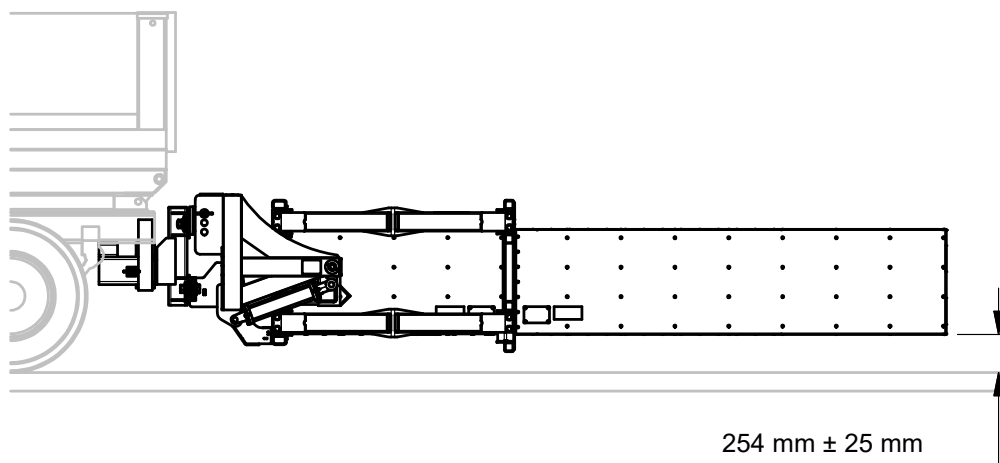
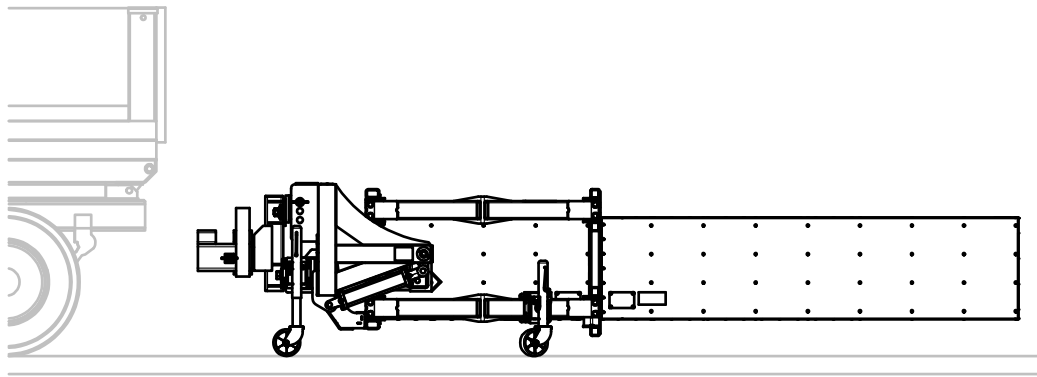

Figure 3
Figure 4
1. The TMA should be rigidly fastened to the truck. In the horizontal position, the rear bottom of the TMA should be $254 \text{ mm} \pm 25 \text{ mm}$ from the ground and level (Figure 3). The TMA must be left in the down position whenever possible. The TMA can only absorb the energy of an impacting vehicle within CEN/TS criteria in the down position.
2. Optional Jacks may be used to support the TMA when it is not attached to the truck (Figure 4). The Jacks must be removed while the TMA is deployed (Figure 3).